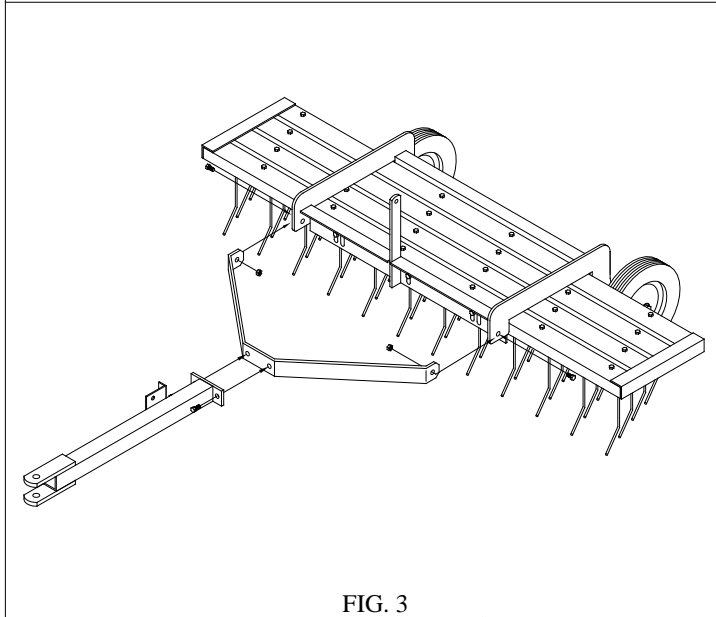

FIG. 3
3. Next, attach draw strap (C) to frame mount (B) with 3/8" x 1" HHC and locknuts provided. **Note:** Draw strap (C) mounts to the outside of the Frame mount (B). Bolt drawbar (D) to draw strap with 3/8" hardware as illustrated. **Fig. 3**